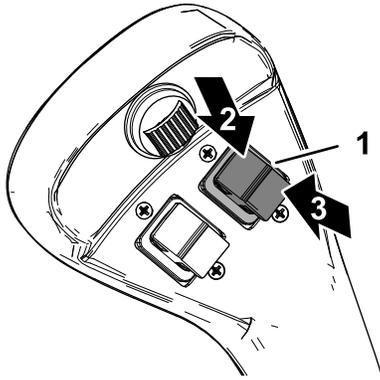

Figure 21
- Press the loader arm extend/retract switch (Figure 21) up to extend the loader arms.